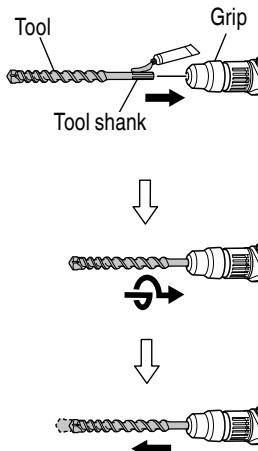

Fig. 7
- (1) Clean, then smear the tool shank with the grease provided in the tube.
- (2) To attach the tool (SDS max shank), insert it into the hole until it contacts the innermost end of the hole as illustrated in Fig. 7.